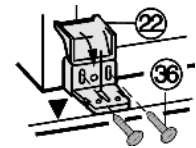

Fig. 29
- ▶ Screw plastic bracket Fig. 29 (22) onto the handle side of the appliance with M5 screws Fig. 29 (36).
- ▶ Align the plastic bracket Fig. 29 (22) so as to be flush with the front edge of the unit floor.